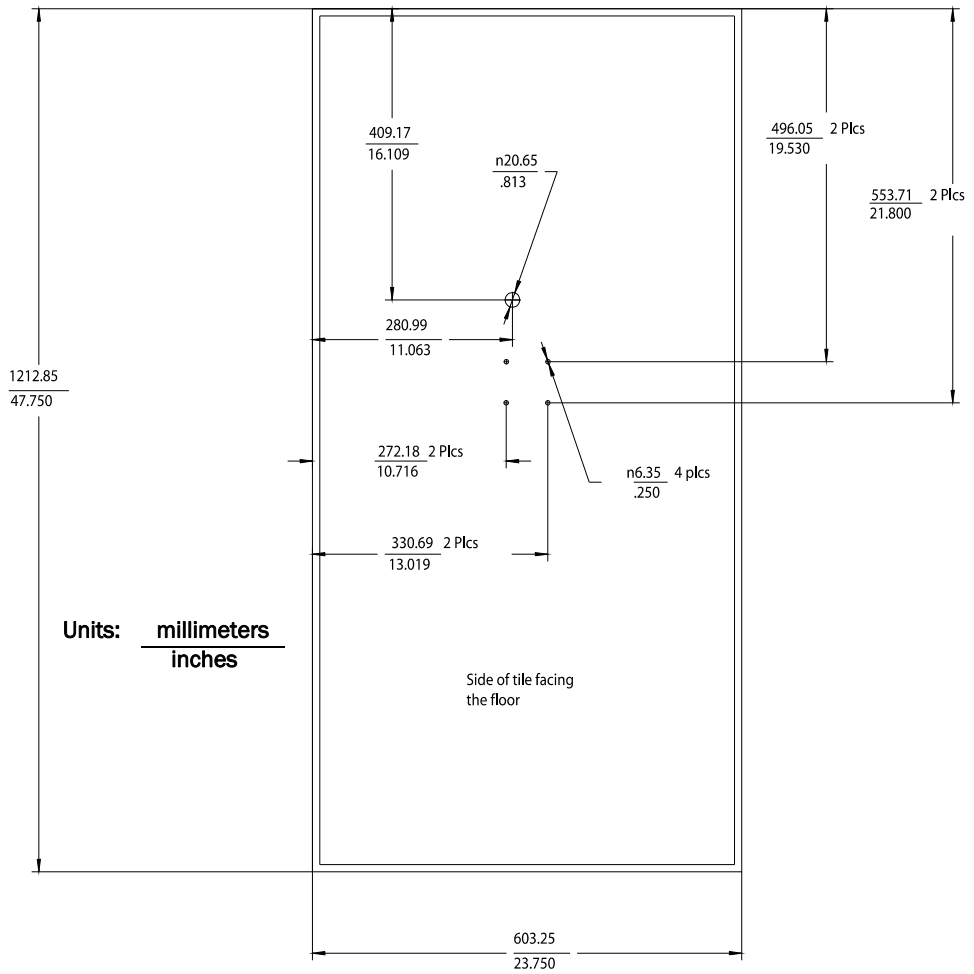

Figure 2-20: RA Below Ceiling Tile Hole Locations and Dimensions
6. Secure the mounting rails to the RA. Insert the four (4) M3 X 0.5 (8 mm LG) screws into the RA mounting rail holes, and into the mating holes in the back of the RA chassis as shown in Figure 2-19 or Figure 2-20. Torque-tighten each screw to 8-inch lbs.
3. Refer to Figure 2-20 for all dimensions and hole locations. Place the mounting rails across the tile (underside of tile). For ceiling tiles that are smaller than standard 2' x 4' size ceiling tile, the mounting rails can be cut down in length at the u-shaped cutouts.